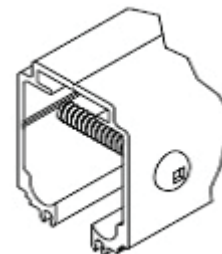

Figure 3: Track stop
- At the end of a track run, if the end of the track does not butt up to a wall, put a #10 x 1.5" long mounting screw through the track ½" from the end and vertically centered as shown in **Figure 3**.